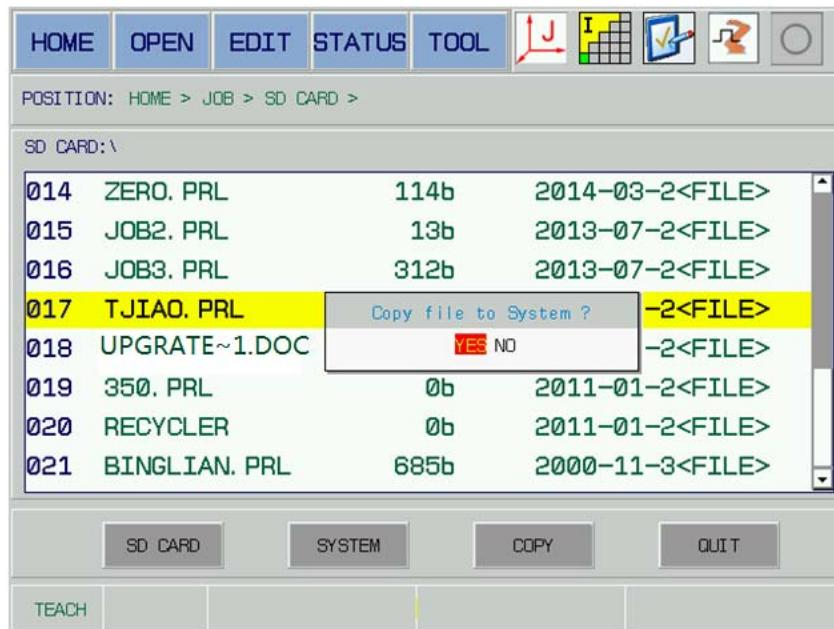

Fig. 5-26
4. Move cursor by [TAB] and up/down direction buttons, then enter the catalogue by [SELECT], return to the last layer by “Previous..”, and then move the cursor to the program ‘TJIAO.prl’ to be copied, press [SELECT] (or shift cursor to the [Copy] button, by [SELECT] of the area 2); the system may prompt “Confirm the copied file to system?”; refer to Fig. 5-26.